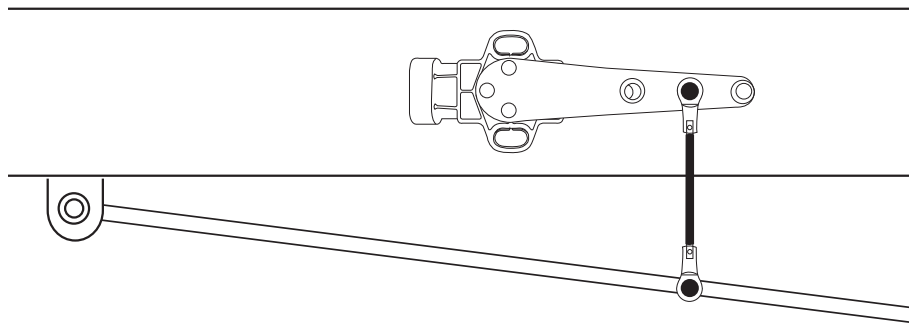

fig. 30
- Assemble linkage back together, and fasten it to the sensor arm and lower mounting location with supplied hardware (fig. 30). Temporarily secure the sensor in its intended location including using the height sensor spacer that is provided.